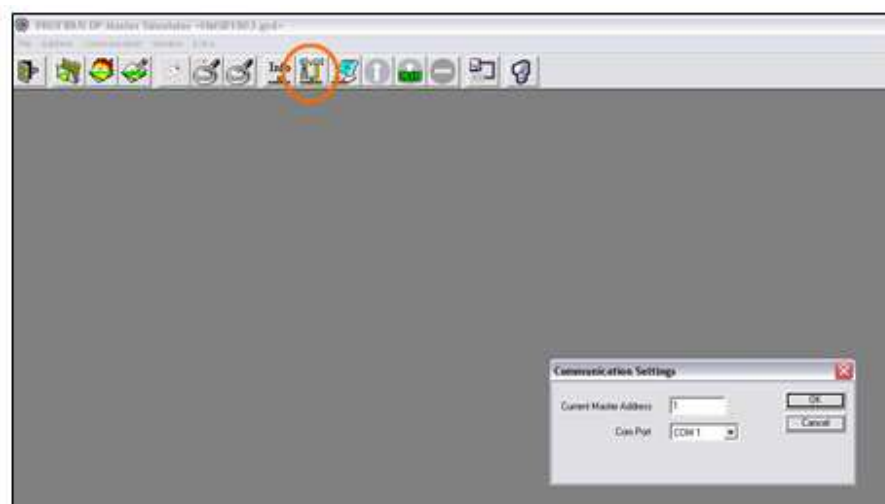

Figure 38 - ProfiBus master settings
- 4- Click on the **Communication Settings** button, set the **Current Master Address** to 1 and the **COM port** with the serial port number corresponding to the Anybus Communicator module, see figure 38.